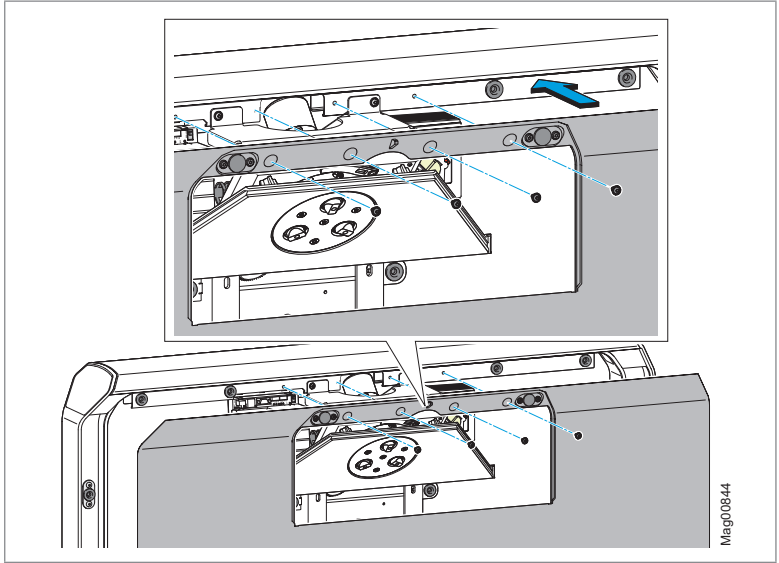

Fig. 25: Attachment of the front panel
3. Loosen the 4 screws of the front panel. ↗ Page 55, Fig. 25.